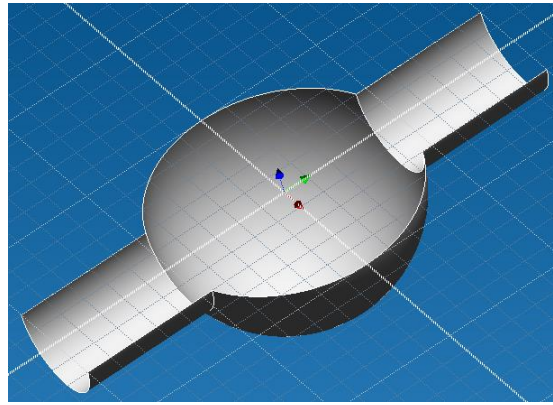

Fig. 1.2 Surface model
**Surface model** is a physical body with one of its sizes essentially less than two others (Fig. 1.2). The basic way of surface model creation is carrying out of operations (extrude, revolve, etc.) on **closed and open flat contours** (see Chapter 4).